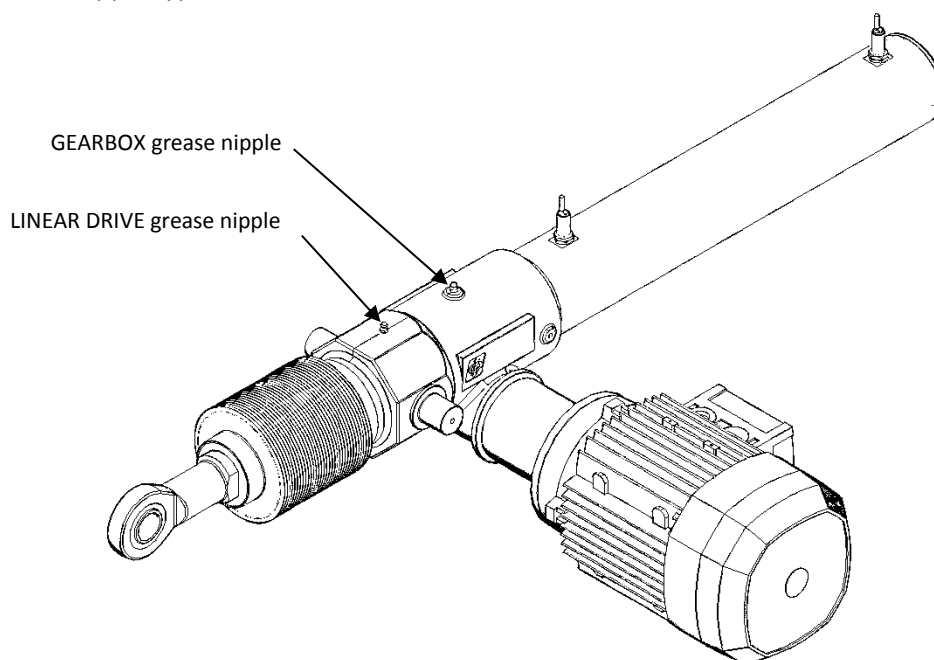

Figure 9.2 – TMA actuator lubrication
- ⚠ Relube the linear actuator using proper grease nipples, as shown on Fig. 9.2.
- Restore the lubricant quantity of the gearbox using proper grease nipple, as shown on Fig. 9.2.